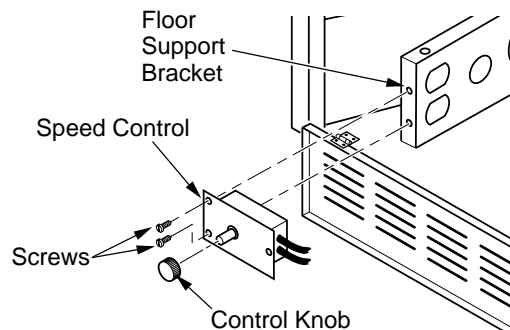

Figure 20 - Attaching Speed Control
10. Place control knob provided on plastic control shaft of speed control (see Figure 20).
11. Mount the speed control onto the front leg of the left floor support bracket using 2 screws provided (see Figure 20).